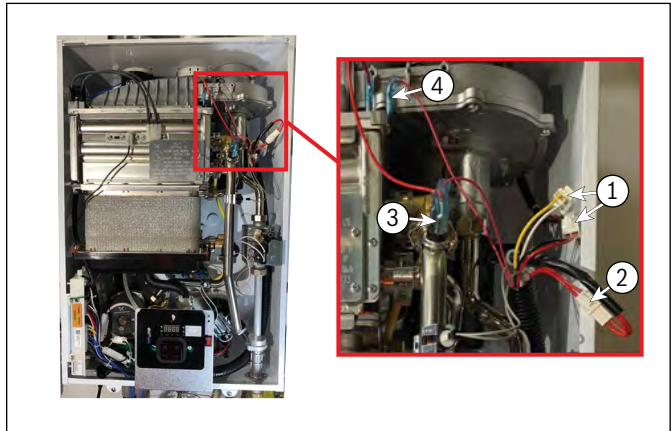

Figure 120
4. Loosen fixing screw on bottom right hand side of heat exchanger cover and Remove heat exchanger cover and disconnect flame rod and electrode assembly wires (Fig.120, Item 2).